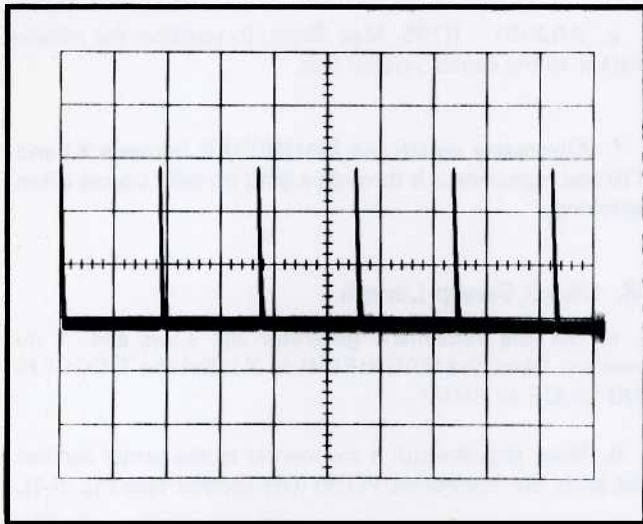

Fig. 5-5. Typical CRT display when checking VARIABLE control range.
c. CHECK—CRT display for two-division maximum spacing between markers (indicates adequate range for continuously variable sweep rate between the calibrated steps; see Fig. 5-5). Return the VARIABLE TIME/DIV to the CAL IN position.